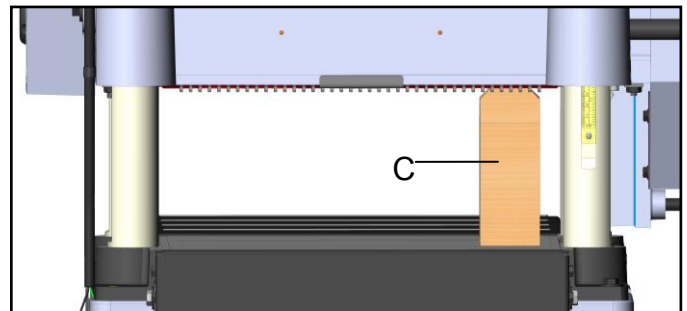

Fig. 27
3. Move gauge block (C) to opposite end of table Fig. 27.